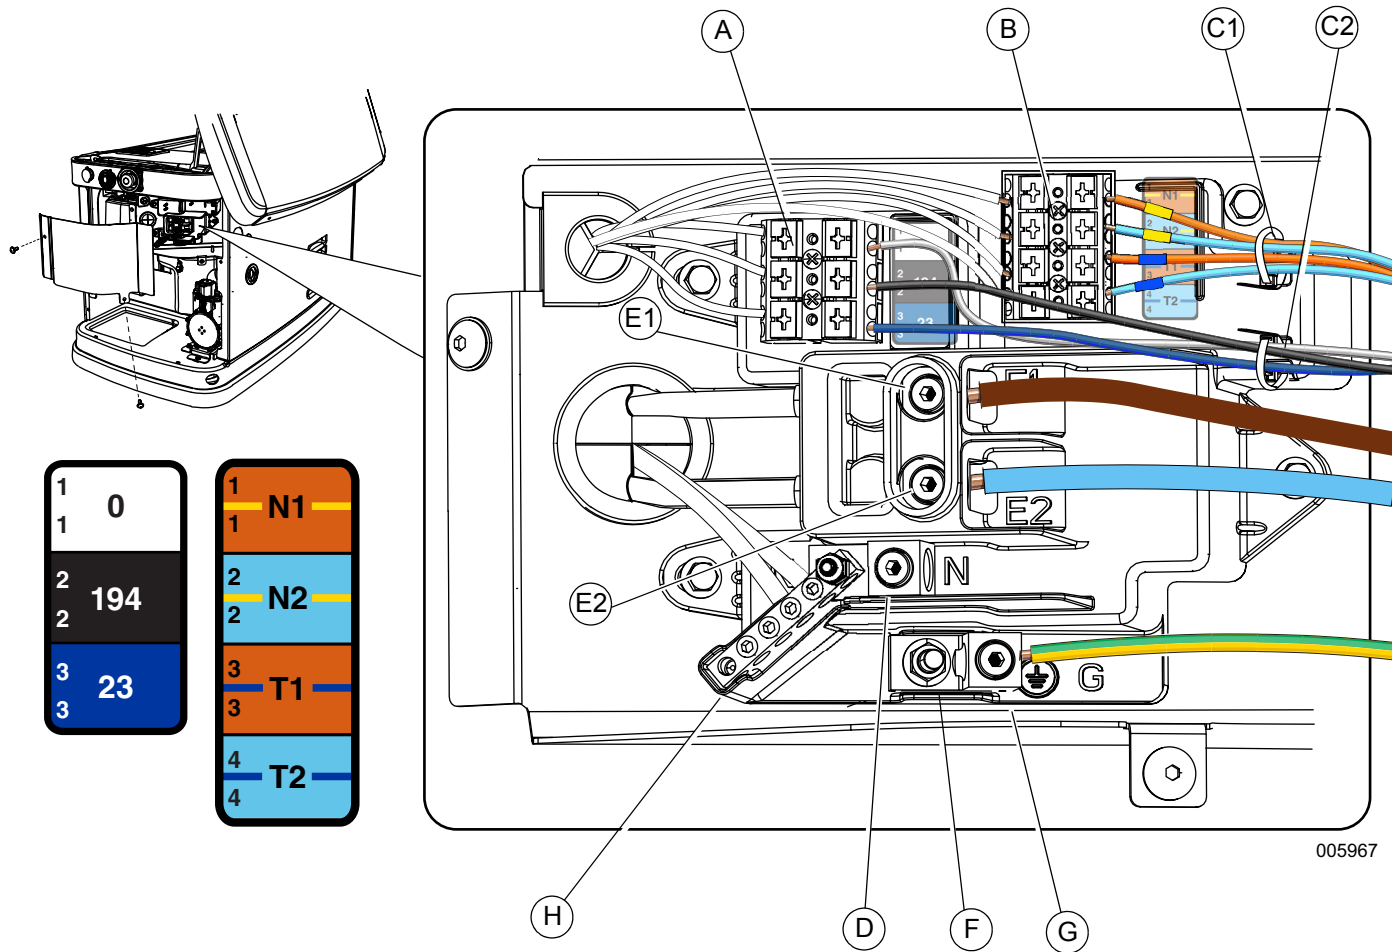

Figure 6-1. Electrical Wiring Connections
See Figure 6-1. The electrical wiring enclosure is located behind an access panel on the intake end of the unit. Remove the intake side panel as directed in Intake Side Panel Removal, and then remove the access panel. Connect wires according to the diagram and tables.
4. See Figure 6-1. Strip the insulation from the ends of the wires. Do not remove excessive insulation. Route the sense wires through the supplied wire tie (C1), and connect to the sense wire terminal block (B). Push down on the spring loaded connection point with a flat head screwdriver, insert wire, and release.
5. Using the same process, route the control wires through the second supplied wire tie (C2), and connect to the control wire terminal block (A).
2. See Figure 6-1. Loosen the lugs at neutral (E2), ground (G), and power wire (mains) terminal (E1).